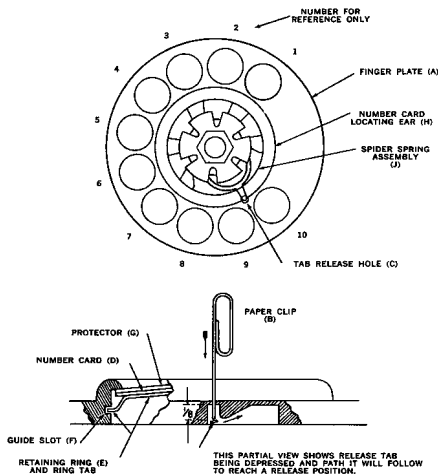

FIGURE 10
- 5.01 Revolve the finger plate (A) in a clockwise direction as far as it will go. Then insert one end of an opened paper clip (B) into the tab release hole (C) and depress the tab approximately $1/8$ ". With the locking tab depressed, continue to turn the finger plate in a clockwise direction until a second stop is reached. Remove the paper clip (B) and lift the finger plate from the dial. (See Figure 10).